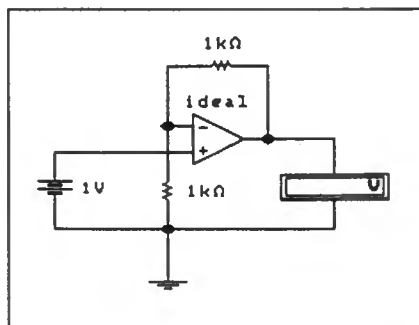

Fig. 5.11 Non-inverting amplifier circuit (Assignment 5.1).
1. Connect the non-inverting amplifier circuit shown in Fig. 5.11. Check that the
- Finally, return to the circuit of Fig. 5.11 with $V_{IN} = 1V$. Choose a value for R_F that will produce an output voltage of $10V$ (i.e., a voltage gain of exactly 10). Check that the circuit works and note down the value of R_F used.